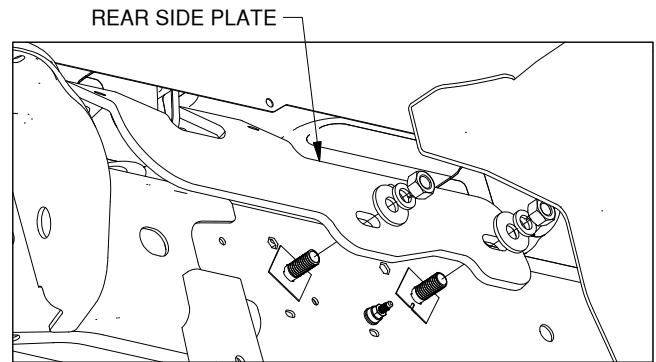

Figure B4: View looking at driver side frame.
- 5. Install the rear side plates.** Locate the two rear side plates, four 1/2" flat washers, lock washers, and nuts. The rear side plates will install so that the two flanges on the top of the side plate will be on either side of the bed cross member directly behind the axle. Loosen or detach wiring connections as needed so the side plate can pass under the wiring. The grounding nut and connector will also need to be temporarily removed until side plate is secured. Pass the flanges over the frame and around the cross member while guiding the rear side plate holes over the carriage bolts, as shown in Figure B4. Attach the rear side plates with 1/2" flat washers, lock washers and nuts and hand tighten. Re-secure wiring components.